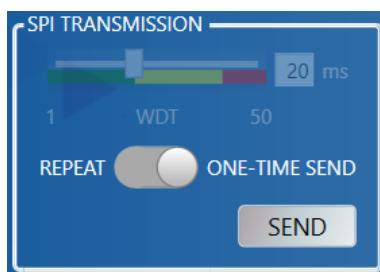

Figure 6. One-Time Send Mode
2. Set GUI “SPI Transmission” sections as one-time send mode, see Figure 6.